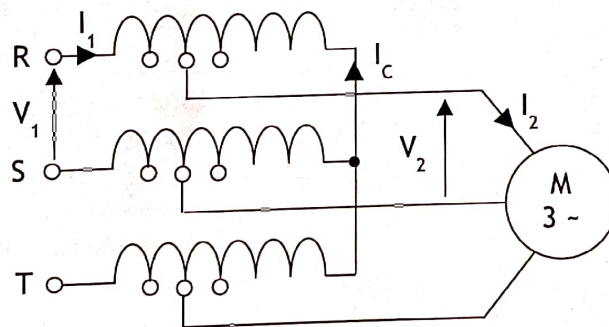

Fig Q6
- (i) phase voltage relative to line voltage; (4)
- (ii) starting current relative to full-load current; (4)
- (iii) starting torque relative to line voltage; (4)
- (iv) cost. (1)
- (b) Fig Q6 shows the starting circuit of a three-phase, 440 V autotransformer starter for an induction motor. The motor is connected to the 65% tapplings of the autotransformer.